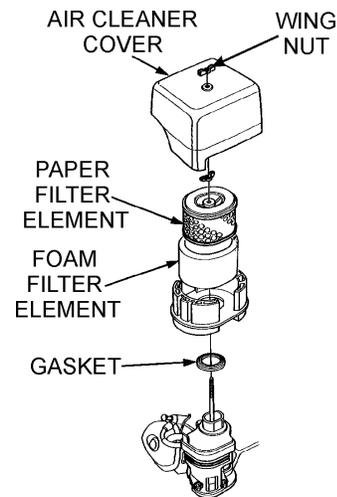

Figure 23. Engine Air Filter
1. Remove the air cleaner cover and foam filter element as shown in Figure 23.
2. Tap the paper filter element (Figure 23) several times on a hard surface to remove dirt, or blow compressed air [not exceeding 30 psi (207 kPa, 2.1 kgf/cm2)] through the filter element from the air cleaner case side. **NEVER** brush off dirt. Brushing will force dirt into the fibers. Replace the paper filter element if it is excessively dirty.